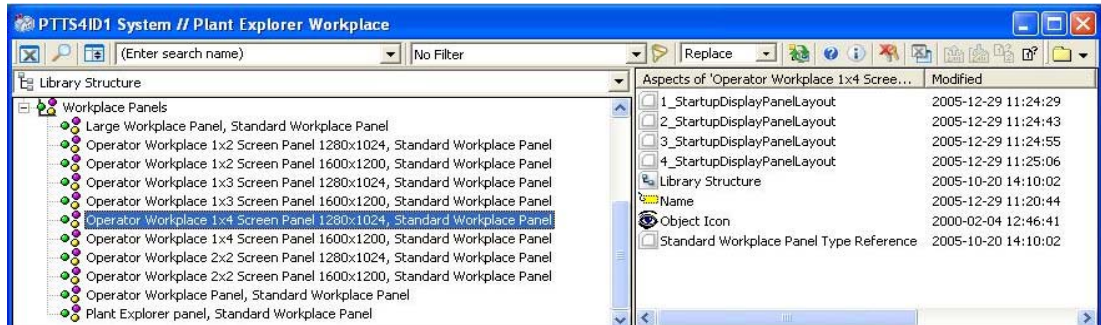

Figure 37. Workplace Panels in the Library Structure - Multi-Screen Workplace
8. The template provides predefined panels for the different multi-screen workplaces. These are located in the Library Structure below the Workplace Panels object. See Figure 37.